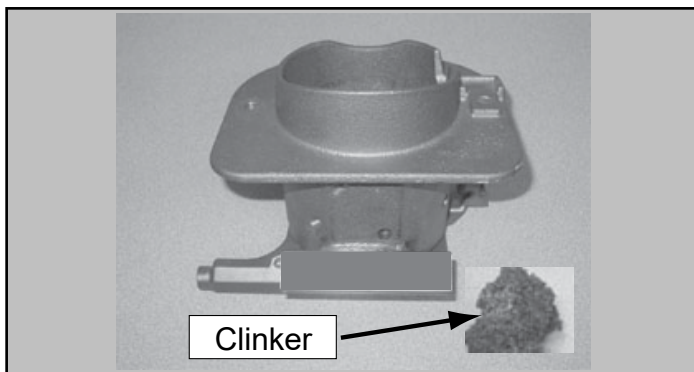

Figure 20.2 - Fire pot with large clinker
- d. It may be necessary to use your firepot clean-out tool to chip away material that has built up on the sides of the firepot and to push out any clinkers (**Figure 20.2**).